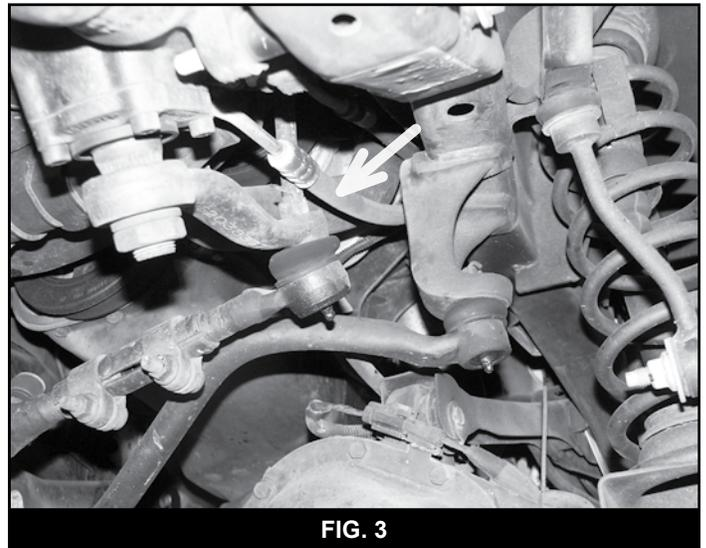

FIG. 3
8. Remove the cotter pin and castellated nut from the drag link end at the pitman arm (Figure 3). Thread the nut back on a couple of turns. Strike the pitman arm near the drag link end to release the tapered seat. Take care not to damage the end. Remove the nut and the drag link from the pitman arm. Save hardware.